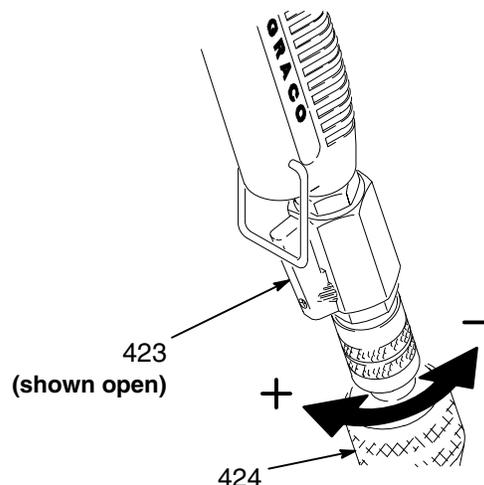

Fig. 9 7132A
**How to relieve compressor pressure:** Be sure the gun air valve (423) and air restrictor valve (424) are open. This relieves compressor air every time you shut off the system. See Fig. 9.
- Air bleeds from the gun nozzle when the gun air valve (423) is open. See Fig. 9. You may close the valve to stop the air, or you can leave it open at all times except while priming the system. See **Spray Techniques** on pages 12 and 13 for more gun characteristics.